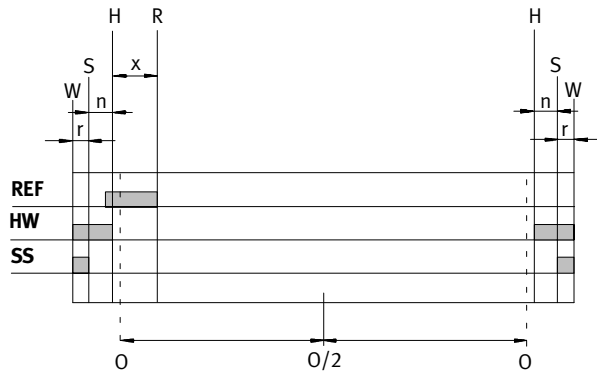

Fig. 35
- The response ranges (grey bars in Fig. 35) of the safety limit switch (SS) and the hardware limit switch (HW) overlap. In this way you can avoid undefined operating states when the axis is switched on.